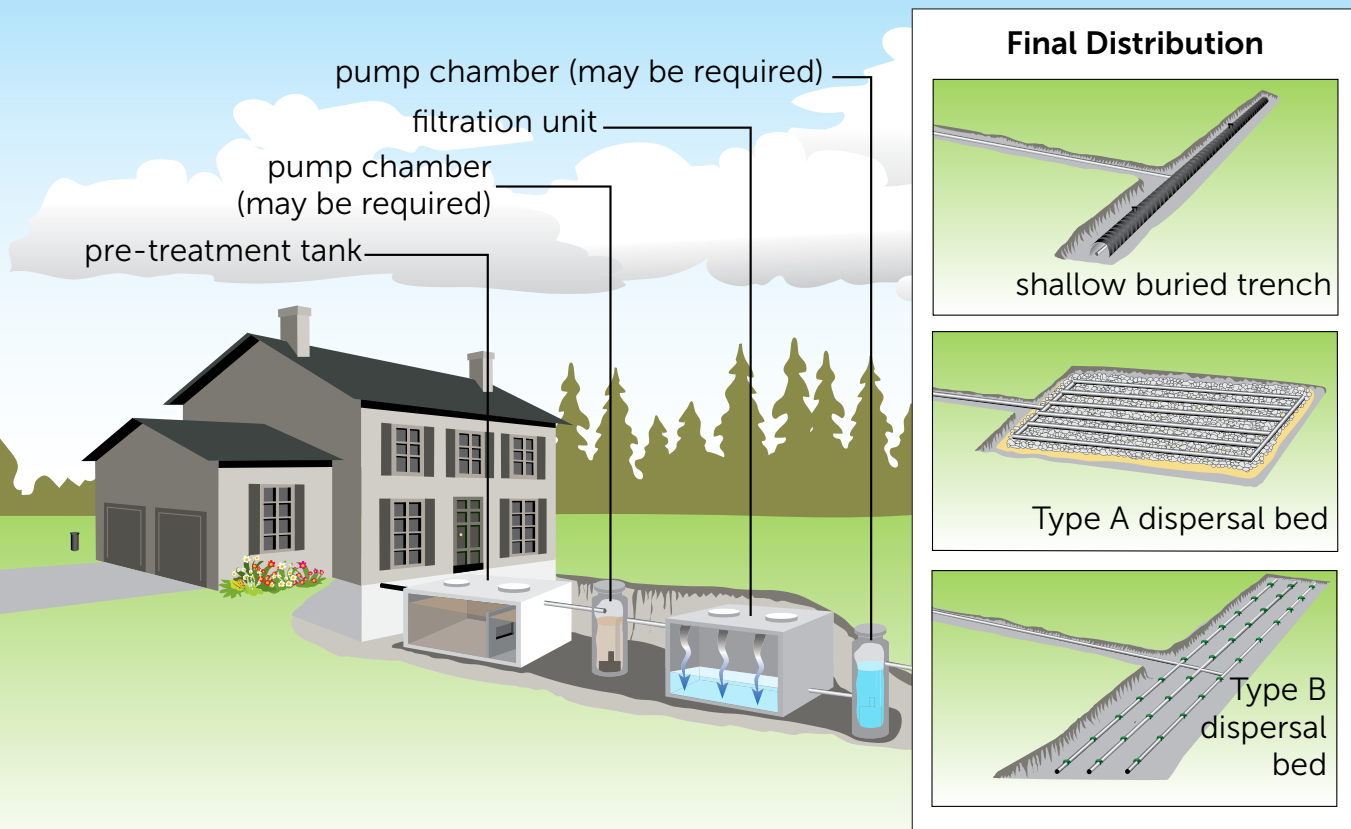

Figure 8. Filtration units provide Level IV effluent treatment which allow for in-ground treatment options with smaller footprint.
Filtration units use gravity to trickle effluent over a filtering medium like foam or peat moss to provide additional treatment to the effluent. Similar to the other systems, the wastewater flows from the home to a pre-treatment tank to settle solids and separate scum. Wastewater is then piped or pumped into the top of the filtration unit that is filled with materials such as synthetic foam cubes, peat moss or coconut fibers. As the wastewater trickles or percolates down through the filtration unit, a bacterial slime grows and thrives. Trapped air fills the voids and encourages aerobic conditions where bacteria break down the waste. The effluent then flows to a shallow buried trench or a Type A or Type B dispersal bed (Figure 8) for final distribution and treatment in the soil.
- can use a shallow buried trench, a Type A or B dispersal bed for final distribution and treatment which require smaller footprints (Figure 8)